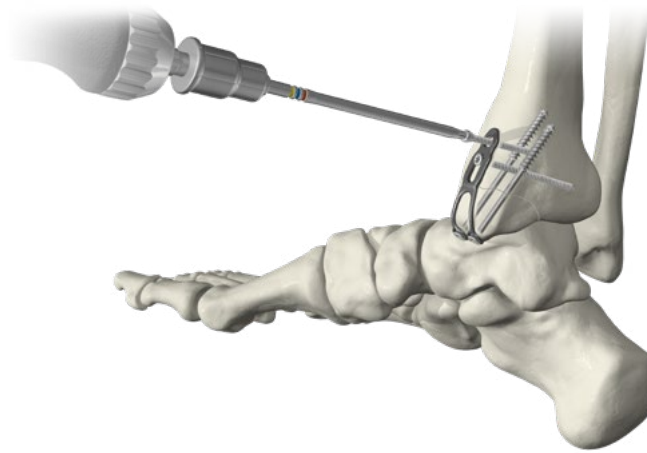

FIGURE 38
12. To complete the construct, place a final locking or non-locking screw of the desired diameter into the most proximal hole of the tension band plate (**FIGURE 38**). Confirm plate and screw placement using fluoroscopy.